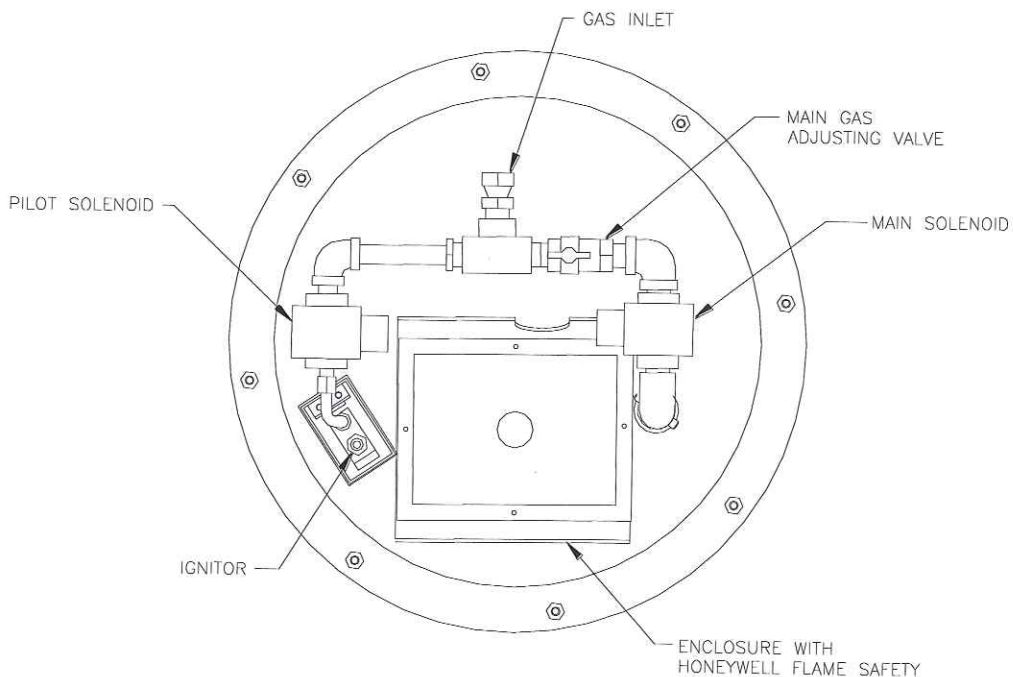

Figure 7
- 3.1.5 Check that the Main Burner Valve is in the full open position. It is located on the bottom of the Burner Assembly as shown in Figure 7.